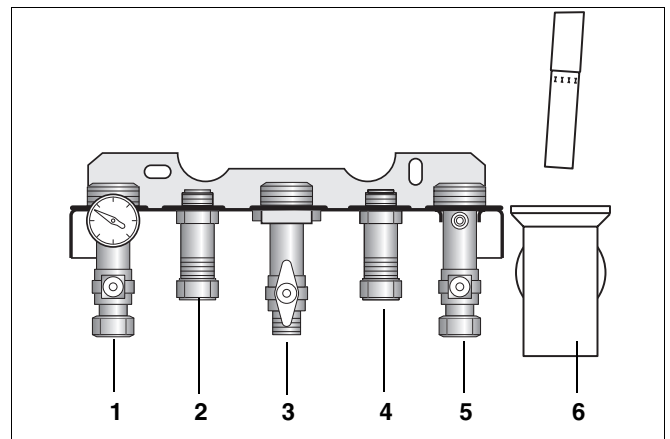

fig. 7 Pipe connections
- Connect pipes as shown in fig. 7. Ensure that all pipework is routed so as to minimise any strain on the boiler fittings.
Key to fig. 7:
- Connect pipes free of tension (→ fig. 7).